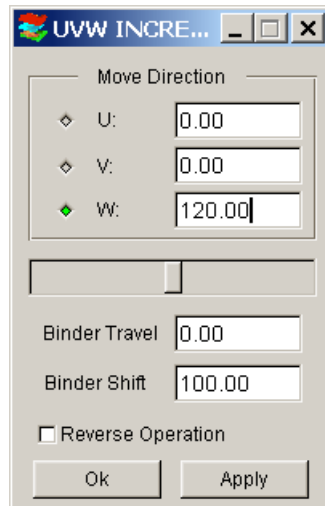

Figure 5.24
17. Key in distance, **120.00** (mm) (See Figure 5.24)